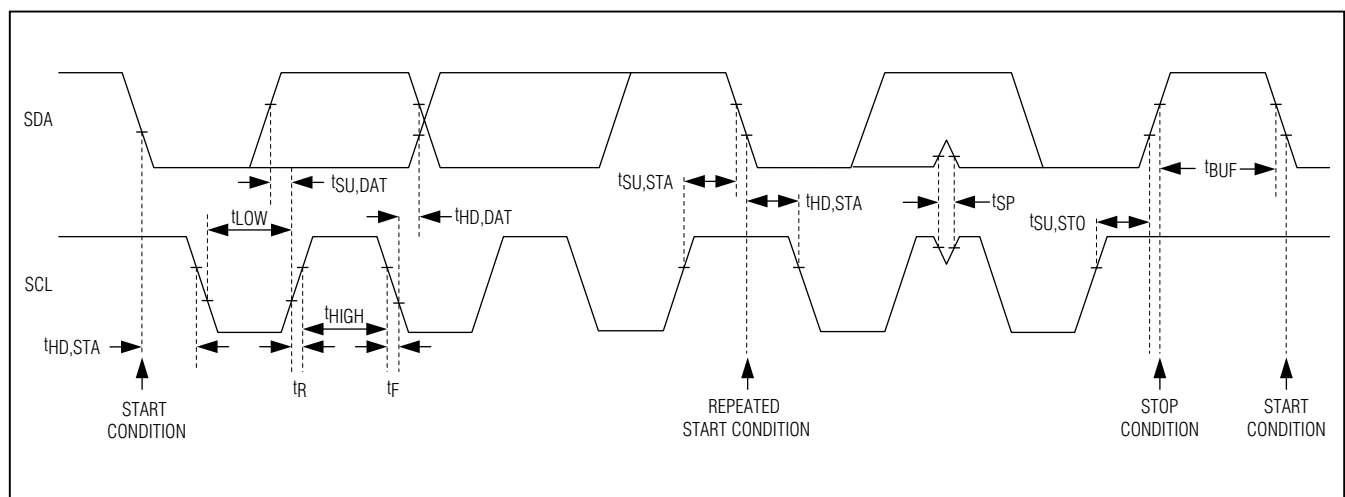

Figure 3. 2-Wire Interface Timing Diagram
The IC features an I²C/SMBus™-compatible, 2-wire serial interface consisting of a serial-data line (SDA) and a serial-clock line (SCL). SDA and SCL facilitate communication between the IC and the master at clock rates up to 400kHz. Figure 3 shows the 2-wire interface timing diagram. The master generates SCL and initiates data transfer on the bus. A master device writes data to the IC by transmitting the proper slave address followed by the register address and then the data word. Each transmit sequence is framed by a START (S) or Repeated START (Sr) condition and a STOP (P) condition. Each word transmitted to the IC is 8 bits long and is followed by an acknowledge clock pulse. A master reading data from the IC transmits the proper slave address followed by a series of nine SCL pulses. The IC transmits data on SDA in sync with the master-generated SCL pulses. The master acknowledges receipt of each byte of data. Each read sequence is framed by a START or Repeated START condition, a not acknowledge, and a STOP condition. SDA operates as both an input and an open-drain output. A pullup resistor, typically greater than 500Ω, is required on the SDA bus. SCL operates as only an input. A pullup resistor, typically greater than 500Ω, is required on SCL if there are multiple masters on the bus, or if the master in a single-master system has an open-drain SCL output. Series resistors in line with SDA and SCL are optional. Series resistors protect the digital inputs of the